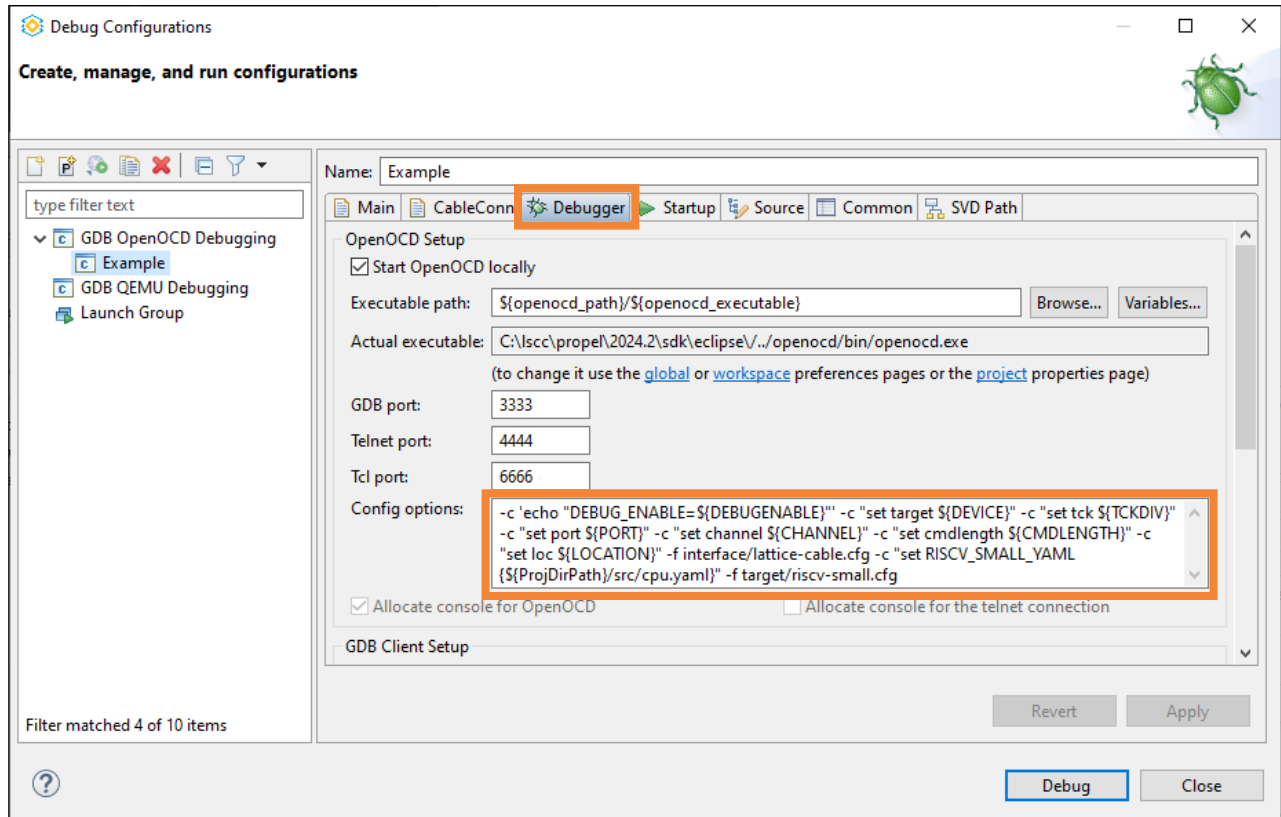

Figure 3.39. Debugger Tab of Debug Configurations
6. Select the **Debugger** tab (Figure 3.39). It is critical that the **Config options** field contains the correct command line options to be passed to OpenOCD.